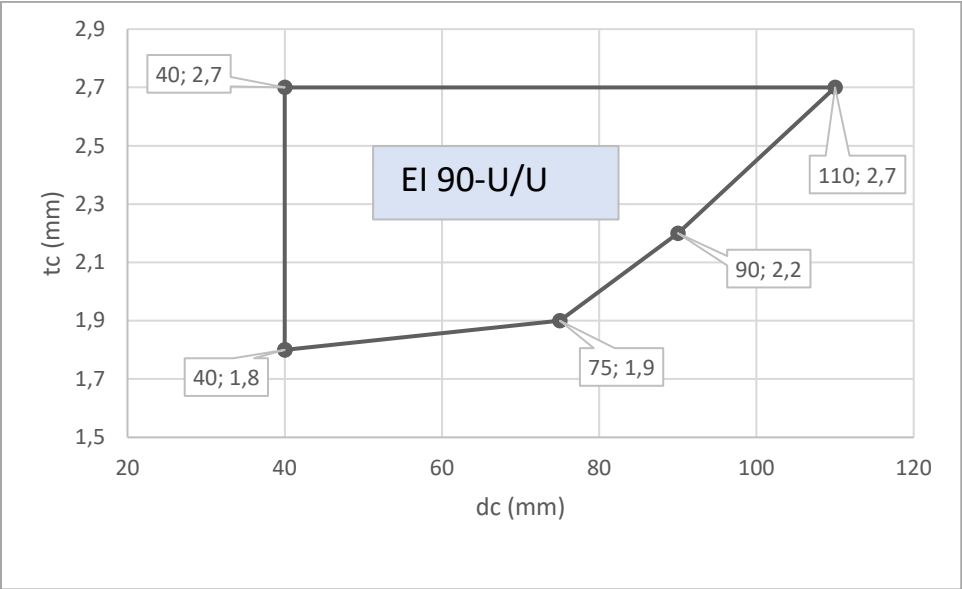

Figure 53: Classified Pipe range of PP-pipes in DG 1 acc. EN 1451-1 with 87°- elbow
- For dimension refer to Figure 53